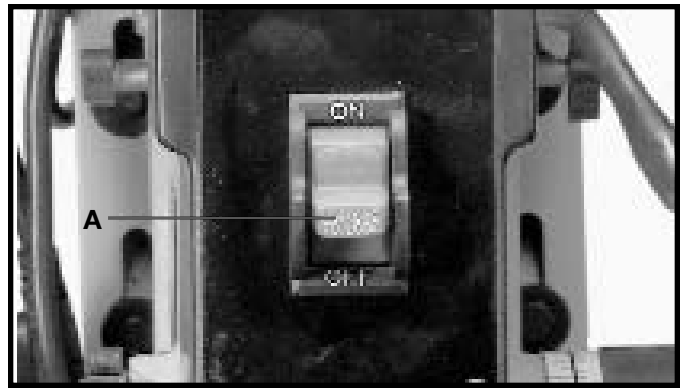

Fig. 17
The switch (A) Fig. 17, is located on the front of the drill press head. To turn the drill press “ON” move the switch to the up position. To turn the drill press “OFF” move the switch to the down position.